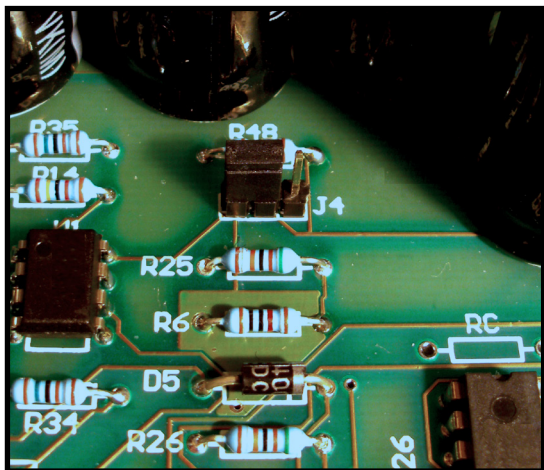

Figure 5 (Above): Vented Battery Setting
- 4.Shift link on J4 to vented position – **see Figure 5.**